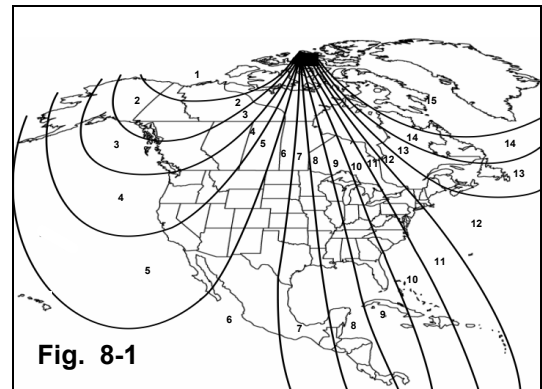

Fig. 8-1
- a) The zone setting is factory preset to Zone 8. Refer to Compass Calibration Zone Map (Fig. 8-1) to find correct compass zone setting for your geographical location. Use same map from User Guide.